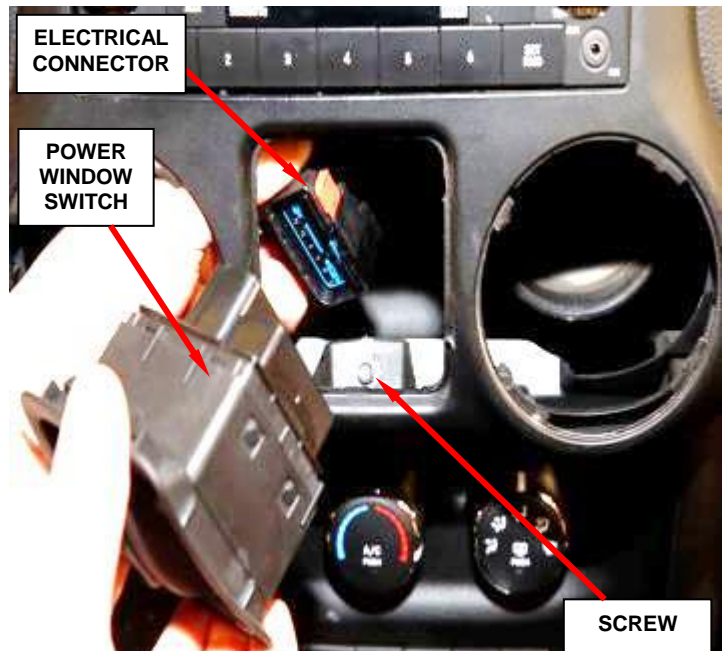

Figure 106 – Power Window Switch
14. If equipped with power windows, using a Trim Stick C-4755 or a suitable flat bladed tool, gently pry the switch assembly away from the instrument cluster bezel (Figure 106).
16. Disconnect the switch assembly electrical connector and remove the switch (Figure 106).